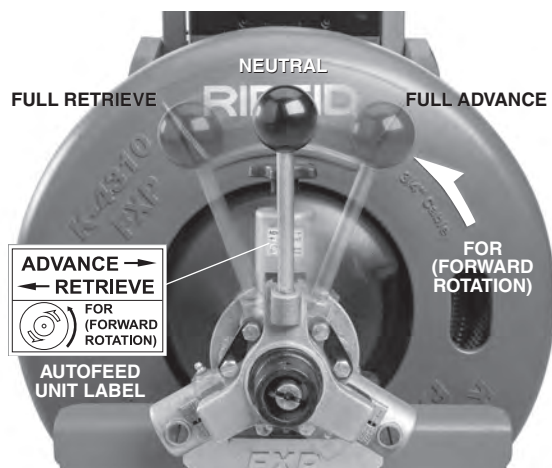

Figure 19 – AUTOFEED Lever Positions (Cable Turning In FOR Direction)
- Turn the main ON/OFF switch to the ON position and move the FOR/OFF/REV switch into the FOR position. Press and release the foot switch and note the direction of rotation of the drum. Let drum come to complete stop. If the foot switch does not control the machine operation, do not use the machine until the foot switch has been repaired. The drum should rotate counter-clockwise when viewed from the front of the drum and will match the drum direction shown on the drum in *Figure 19*.
Grasp near the center of the exposed length of cable with a gloved hand (*Figure 21*). Gloved hand must be on the cable to control and support the cable. Improper cable support can allow the cable to kink or twist and can damage the cable or injure the operator. Make sure that the cable outlet of the drain cleaning machine is within 3' (0.9 m) of the drain opening. Place the other hand on the AUTOFEED lever. The lever should be in neutral (Vertical) position (see *Figure 19*).
Depress the foot switch to start the machine rotating in the FOR direction. The person controlling the cable must also control the foot switch. Do not operate the machine with one person controlling the cable and another person controlling the foot switch. This can lead to twisting, kinking and breaking of the cable. With the cable rotating, move the AUTOFEED control lever in the opposite direction that the cable rotates (See *Figure 19*). This will cause the cable to advance out of the machine. The further the control lever from the neutral position, the faster the cable will advance.